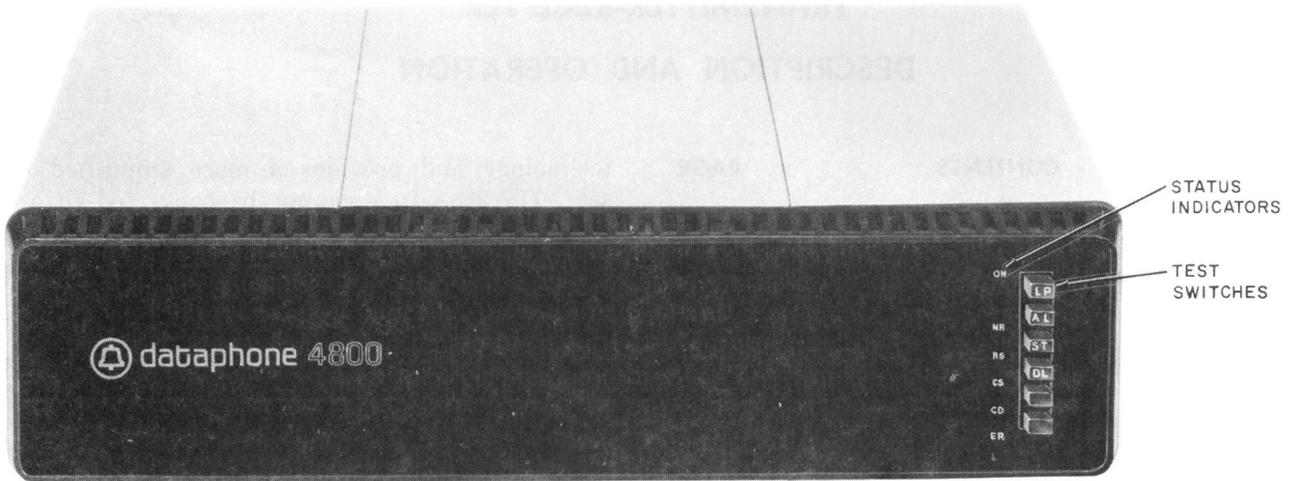

Fig. 1—Front View of DS 208-L1A or DS 208A-L1B
1.03 ♦DS 208A-L1 and DS 208A-L1A are rated manufacture discontinued (MD). They are replaced by DS 208A-L1B (Fig. 1) which provides all the features of DS 208A-L1A and is electrically, but not physically, identical to DS 208A-L1A. Three circuit packs (CPs) contained in DS 208A-L1A have been consolidated into one CP for DS 208A-L1B. This CP utilizes large scale integration (LSI)